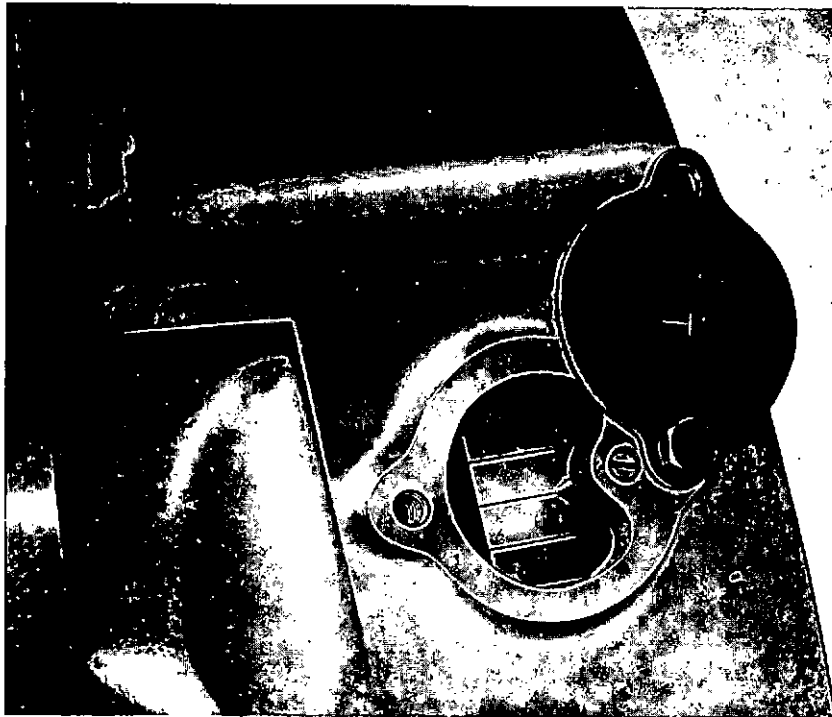

Fig. 5. Flywheel timing cover
Turn the engine by hand until the valves over the 'A1' cylinder are rocking and the 'A6' T.D.C. mark on the flywheel is opposite the timing pointer (fig. 5). Set the 'A6' inlet valve tappet clearance to 1.1 mm (0.043
1. Secure the stop lever in the STOP position, remove the high pressure fuel pipes and rocker cover from the cylinder head serving cylinders A4, A5 and A6 and remove the timing cover, stamped 'T', from the flywheel housing (fig. 5).